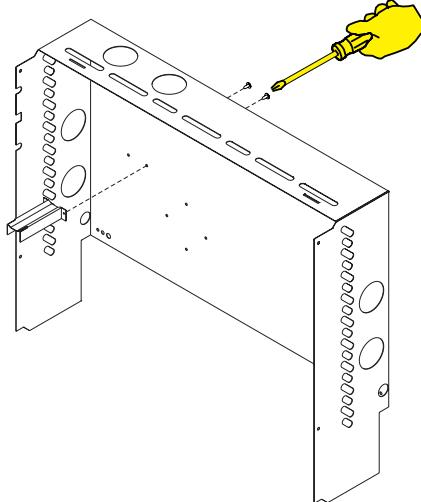

Figure 5
8. Install the flue support bracket using two #8-18 x 1/2 Phillips head screws provided. **See Figure 5.**